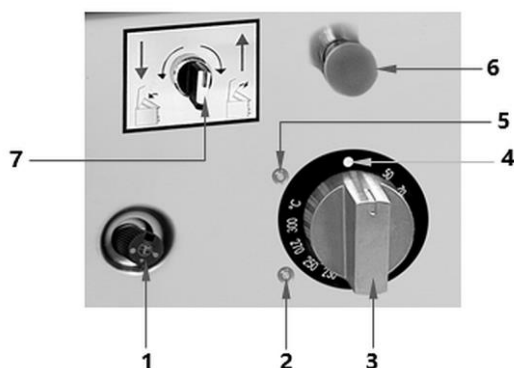

Fig. 10
2. Switch on the appliance by turning the temperature control knob (3, Fig. 10). The green operating Control lamp (5) will illuminate.
3. Turn the ignition control (1, Fig. 10) to the ignition position  and hold it down until the flame ignites.
Tilting frying pans with an electric tilting device have a red emergency stop button (6) on the front (Fig. 10), which allows operation to be interrupted at any time due to a malfunction of the appliance or an emergency situation.
1. Press the emergency stop button (6) to block the operation of the device.